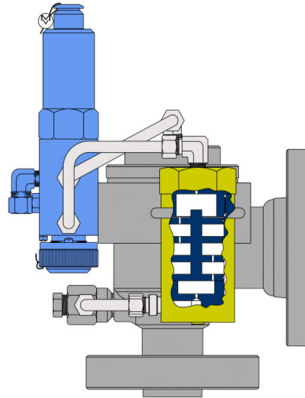

Figure 6: Pressure Snubber on a Snap Pilot Operated Valve
A pressure snubber (PS) is a component that can be installed on a snap pilot operated valve where pressure spikes/ pulses exist in the system. The pressure snubber acts like a dampener on pressure pulses and evens out the pressure spikes. This component can prevent a pilot operated valve from prematurely relieving. A PS requires regular maintenance based on service conditions. Highlighted in yellow and dark blue in Figure 6 is a typical pressure snubber on a snap pilot.